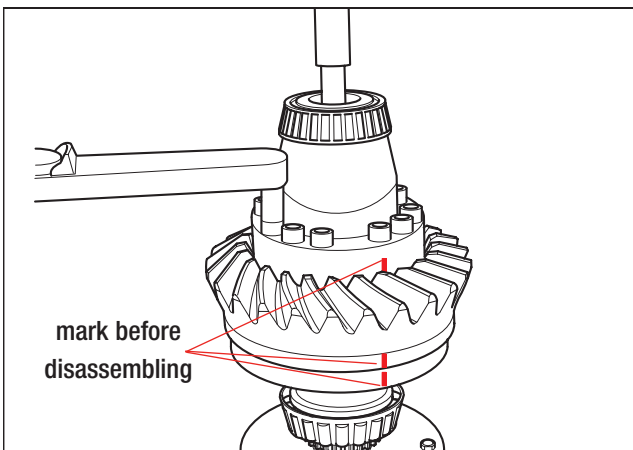

Fig. 2.31
2. Unscrew the twelve hexagon socket headed screws on the differential case. (Fig.2.31)